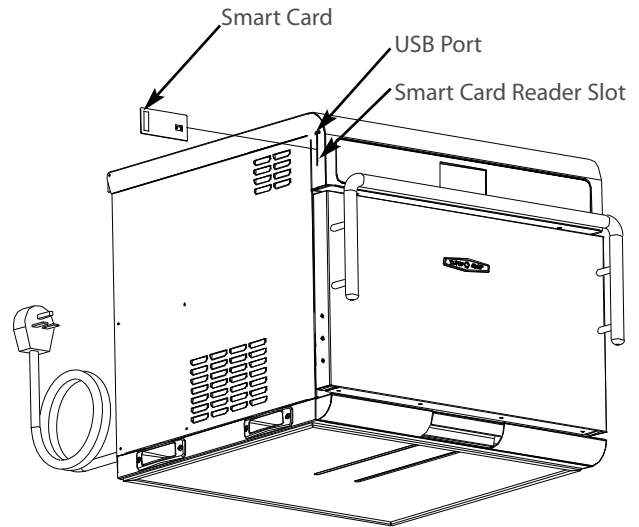

Figure 26: Inserting Smart Card/USB Device
1. Insert the smart card (Figure 26, page 16).
3. Insert the USB drive (Figure 26, page 16).
1. Insert the smart card (Figure 26).
1. Insert the USB drive (Figure 26).
1. Insert the smart card (see Figure 26). If multiple smart cards are required, ensure the correct smart card is loaded first.